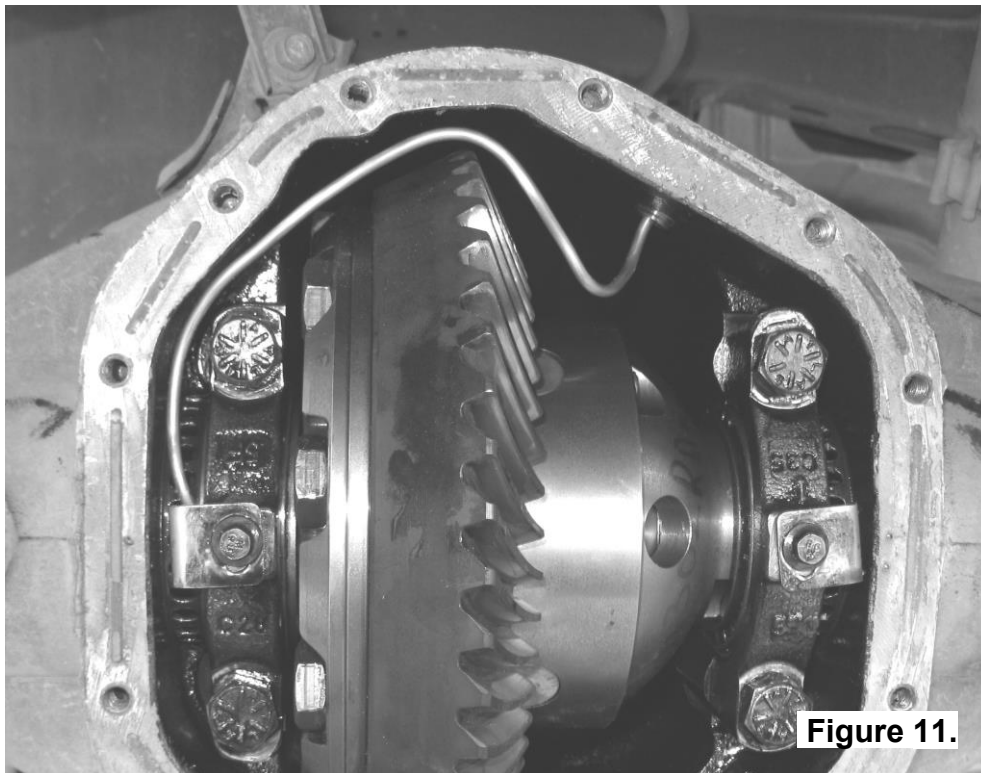

Figure 11.
- With the seal housing tube now firmly secured into the bulkhead fitting, bend the tube so that it closely follows the profile of the differential. (Fig.11.).